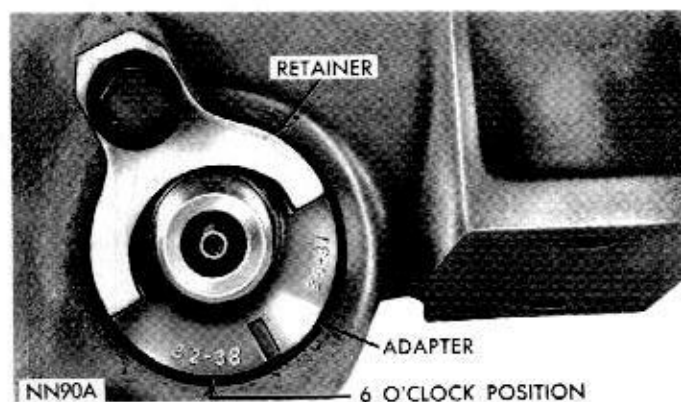
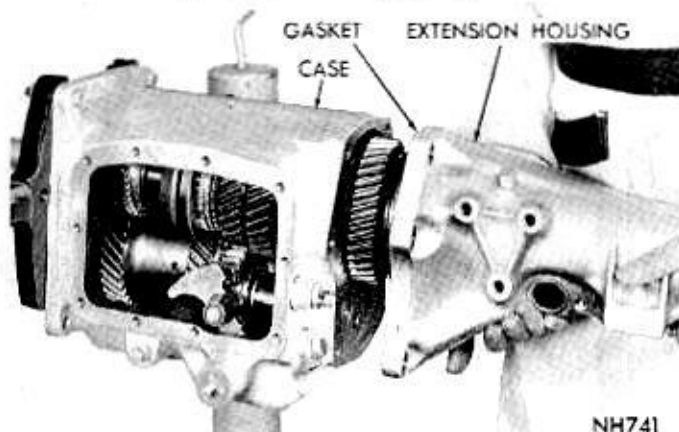

Fig. 8—Speedometer Pinion and Adapter—Installed
Fig. 17—Removing or Installing Extension Housing and Mainshaft Assembly
(1) Place drain pan under adapter or drain transmission.
(2) Remove bolt and retainer securing speedometer pinion adapter to extension housing (Fig. 8).
(3) With cable housing connected, carefully work
(6) Rotate the speedometer pinion gear and adapter assembly so that the number on the adapter, corresponding to the number of teeth on the gear, is in the 6 o'clock position as the assembly is installed (Fig. 8).
(7) Install retainer and bolt, with retainer tangs in adapter positioning slots. Tap adapter firmly into extension housing and tighten retainer bolt to 100 inch-pounds.
(8) Fill transmission to level of fill plug (Refer to Lubrication Section).
(1) Remove bolt and retainer securing speedometer pinion adapter in extension housing (Fig. 8). Carefully work adapter and pinion out of extension housing.
(2) Remove bolts that attach extension housing to transmission case.
(3) Slide third and fourth synchronizer sleeve slightly forward, slide reverse idler gear to center of its shaft, then using a soft hammer, tap on extension housing (in a rearward direction). Slide housing and mainshaft assembly out and away from the case (Fig. 17).